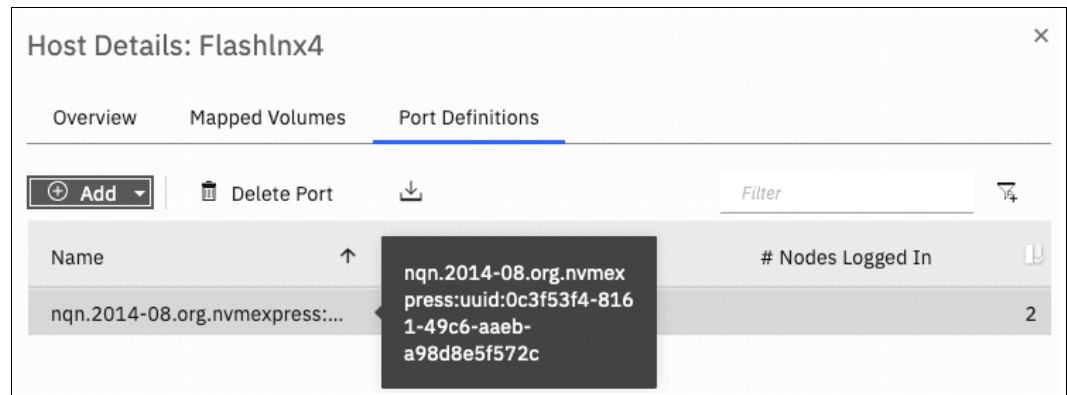

Figure 7-79 Checking the host object NQN on the system
7. Create a host object on the system by using the host NQN, as described in “Creating NVMe host objects” on page 506. Check that the host object has the correct NQN set (see Figure 7-79).